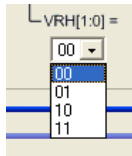

Figure 45
- (1) Click mouse left key to the network name, VRH, to select the network
- (2) Click mouse left key to the network switch, VRH, to select the network.
- (3) Click mouse left key, window like Figure 45 will show up, users can select to the switch network.
- (1) Click mouse left key to the network name, VRL, to select the network
- (2) Click mouse left key to the network switch, VRL, to select the network.
- (3) Click mouse left key, window like Figure 45 will show up, users can select to the switch network
Click mouse left key, window like Figure 45 will show up, users can select to the network.
Click mouse left key, window like Figure 45 will show up, users can select to the network